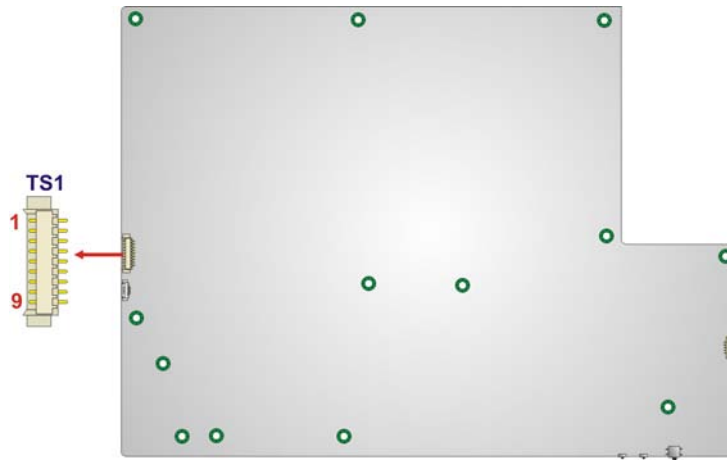

Figure 5-31: Touch Panel Connector Location
- CN Location: See **Figure 5-31**